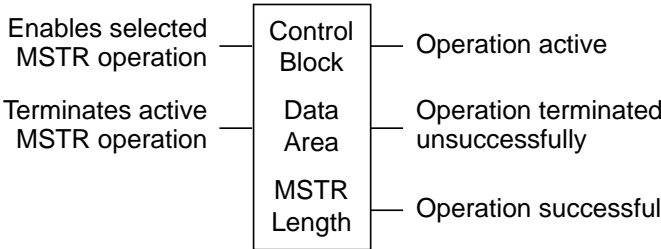

Figure 24: MSTR Block Structure
- MSTR has two control points (see Figure 24):
MSTR can produce three possible outputs (see Figure 24):